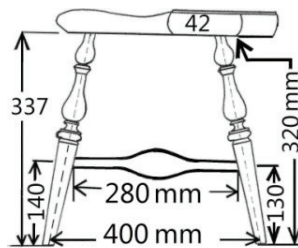

Figure 5-7. The height of the side stretcher is 140mm to the front legs from the floor to the centre of the hole and 130mm to the back legs.
- (b) Mark the holes for the side stretchers in the front and back legs as shown in Figure 5-7. These are 140mm from the ground to the centre of the hole at the front legs, and 130mm to the centre of the hole at the back legs.